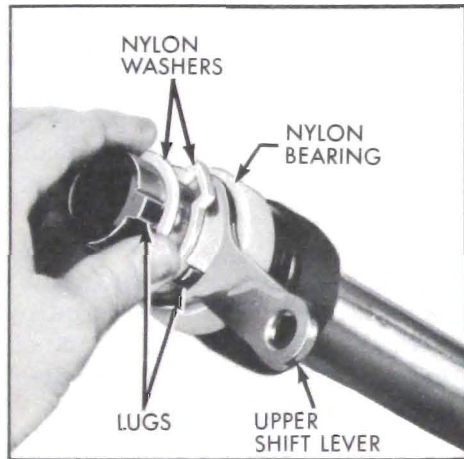

Figure 8-85—Removing Nylon Washers from Shift Control Shaft
clear the second lug and rotate the bearing so that it holds the spring in compression. See Figure 8-85.
19. Remove the two nylon washers and the upper shift lever by guiding them over the locating lugs on control shaft. See Figure 8-85.
3. Install the upper shift lever on the control shaft so that the flange on lever is toward lower end of shaft. See Figure 8-85.
4. Install a nylon washer onto the control shaft so that its locating tab engages the opening in the upper lever flange. See Figure 8-85.